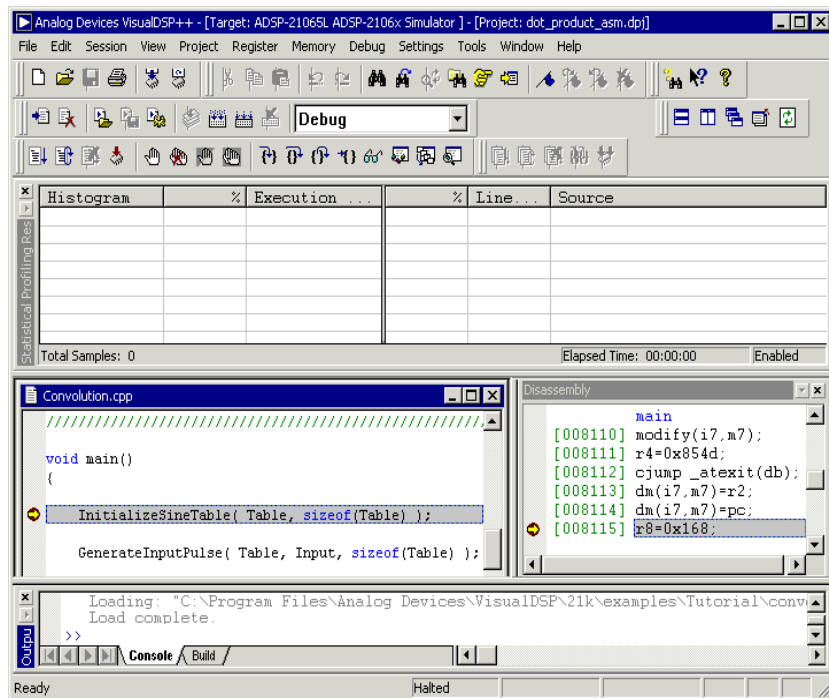

Figure 3-33. Statistical Profiling Results Window (Empty)
- From the **View** menu, choose **Debug Windows**. Then choose **Statistical Profiling Results** to open the **Statistical Profiling Results** window, shown in Figure 3-33.